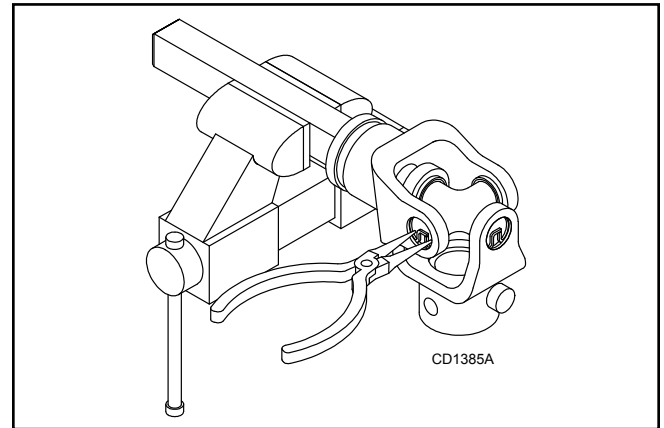

Figure 24. Remove Snap Ring
1. Remove external snap rings from yokes in four locations as shown in Figure 24.